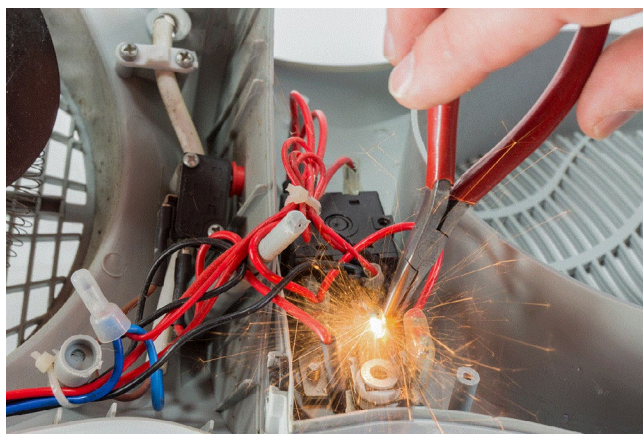

Figure 1: Example of IC failure.
In personal electronics, industrial, automotive and communication applications, short-circuit protection is a safety requirement for all power distribution outputs. Short circuits occur whenever a charged conductor makes physical contact to a grounded element in the system. During a short circuit, the electrical short between power supply and ground can create a very low impedance path, causing a high, uncontrolled sustained current flow. This type of flow is extremely dangerous for systems and can cause integrated circuit (IC) failure, as seen in **Figure 1**. Thus, any systems with a risk of short-circuit events must implement robust protection.